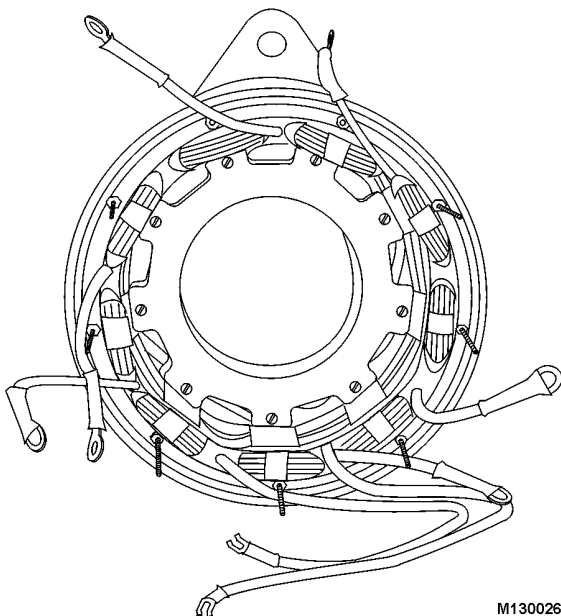

FIGURE 13-22.
6. Using eighteen screws coated with loctite, fasten field coil bobbin ears to stator tabs (Figure 13-22). Tighten screws to 8-10 lb-in. (0.9- 1.1 Nm) torque.